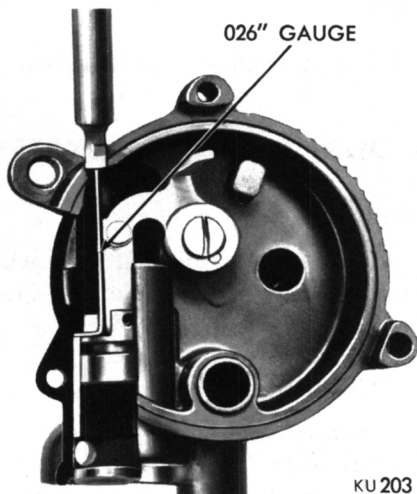

Fig. 2—Choke Piston Indexing
- (1) Remove choke housing retainer ring, heat tube cap and choke coil housing, baffle plate and gasket.
- (2) Remove throttle return spring so throttle can be set one quarter turn open.
- (3) Let choke blade go wide open.
- (4) Insert an .026 inch wire gauge* into choke piston slot so that hook on the end goes into slot in cylinder (Fig. 2).
- (5) Push on choke piston lever thermostat tang trapping the wire gauge between piston and cylinder slots with linkage hanging free.
- (6) Adjust the link connecting the choke shaft to the choke piston lever by bending the link at an angle to give $\frac{1}{8}$ drill opening between choke valve and wall of air horn.
- (7) Reassemble choke, setting the coil one notch rich and install the throttle return spring.